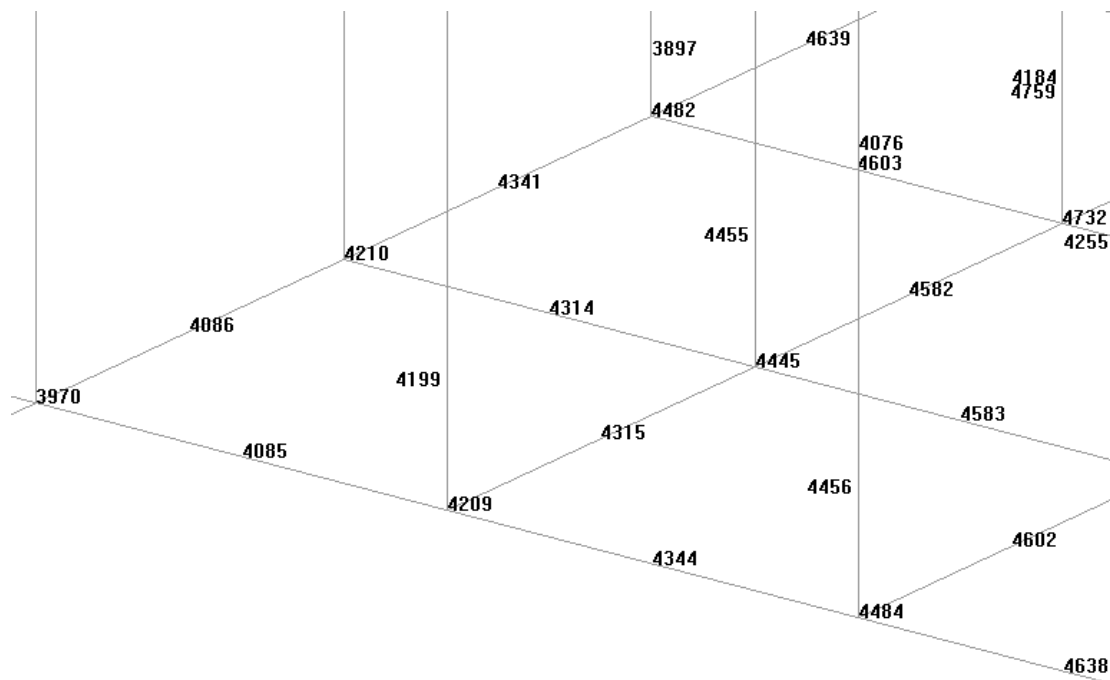

Figure 17. Each number identifies a node. There is a node at each vertex, at the midpoint of each edge and in the center of quadrilaterals and hexahedra.
- 12 . Select **Label->All in->Points** (see Figure 17).